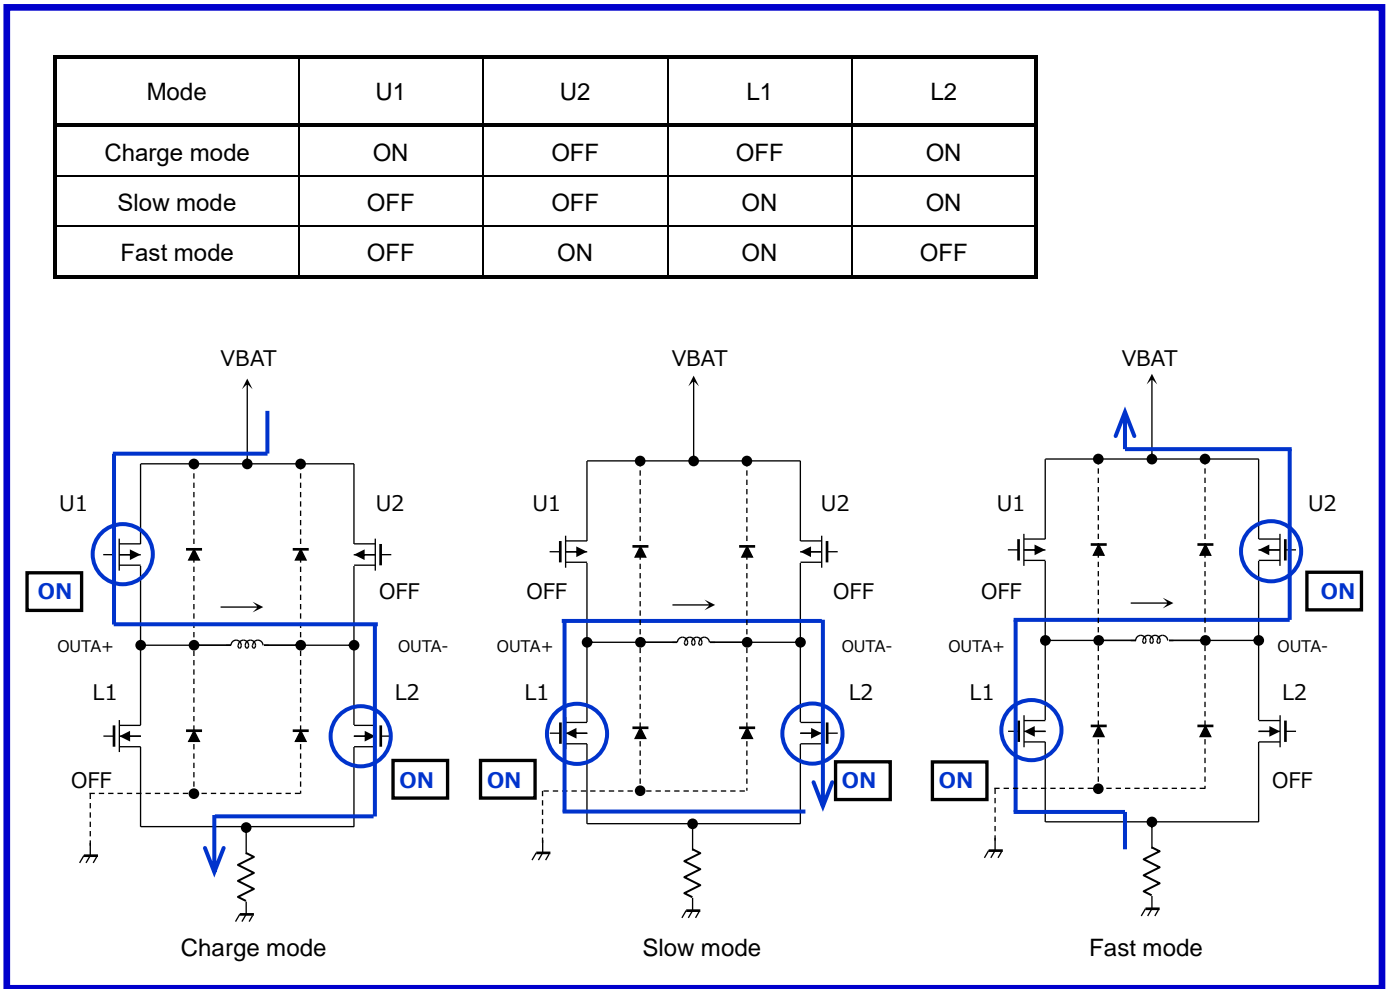

Figure 3. Operation showing charge  $\rightarrow$  slow  $\rightarrow$  fast modes with a current direction of  $OUTA+ \Rightarrow OUTA-$
• When the current direction is  $OUTA+ \Rightarrow OUTA-$ , operation is as shown in Figure 3.